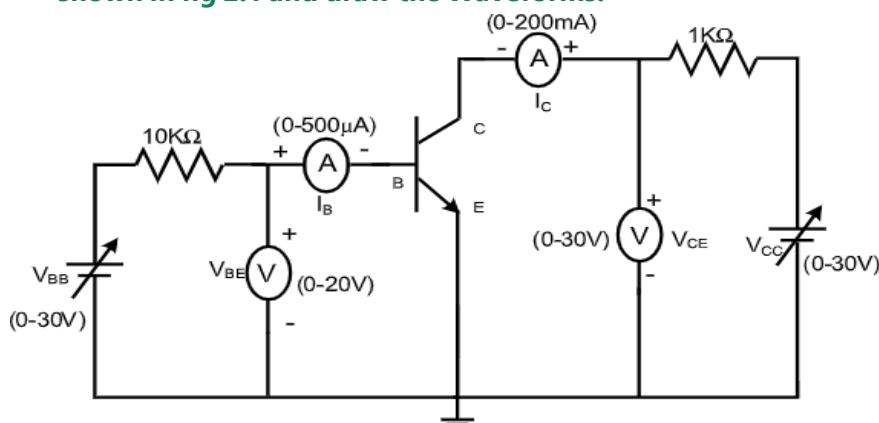

Fig 2.1. CE configuration
2.1 Verification of input and output characteristics of CE Configuration using hardware shown in fig 2.1 and draw the Waveforms.